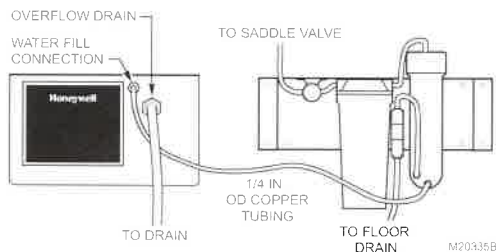

Fig. 11. Plumbing water treatment system and humidifier.
2. Plumb between the saddle valve (provided) and the solenoid on the water treatment system. See Fig. 11.